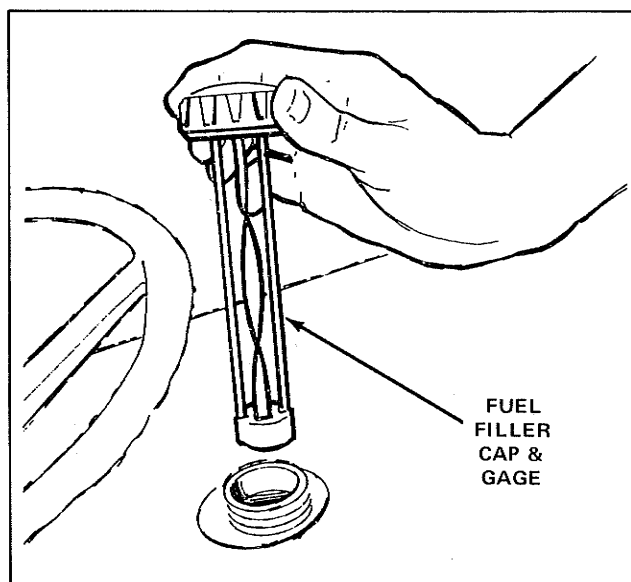

Figure 5
4. Fuel Supply: Check the fuel supply. Fill tank completely with clean, fresh, leaded or non-leaded "Regular" grade automotive gasoline. (*Do not mix oil with gasoline*). Store gasoline in small quantities as prolonged storage produces gum. See page 12, item 6 of this manual. (Figure 5)